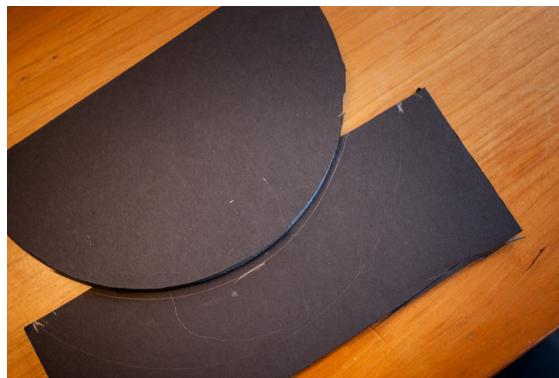

Figure 7-11 The disk support guide semicircle should overlap the disk support foot by 1 1/8" and be centered
3. Glue the base disk support guide to the base disk support so that its outer edge just reaches that mark (see Figure 7-11).